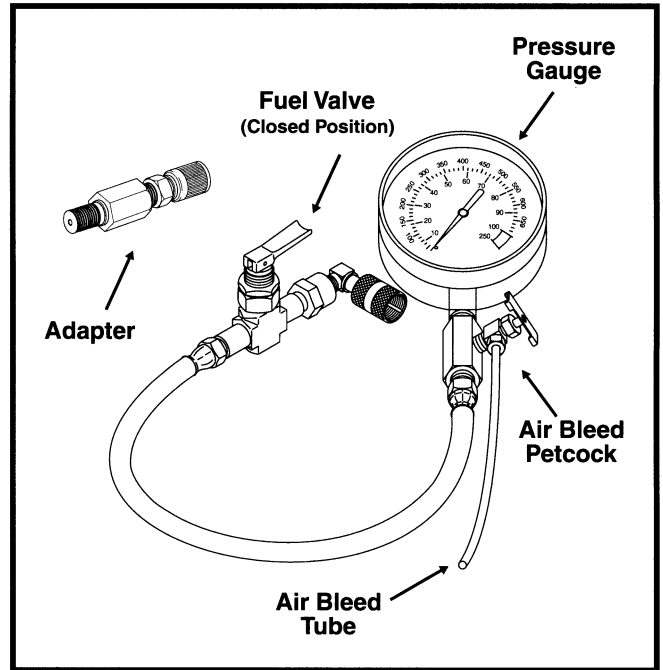

Figure C-28. Fuel Pressure Gauge (HD-41182) with Adapter (HD-41182-1)
5. Thread the Fuel Pressure Gauge Adapter (HD-41182-1) into the fitting. See Figure C-28. Hold the hex on the fuel tank fitting while tightening the adapter.
9. Start and idle engine to pressurize the fuel system. Open the fuel valve to allow the flow of fuel down the hose of the pressure gauge. See Figure C-28.